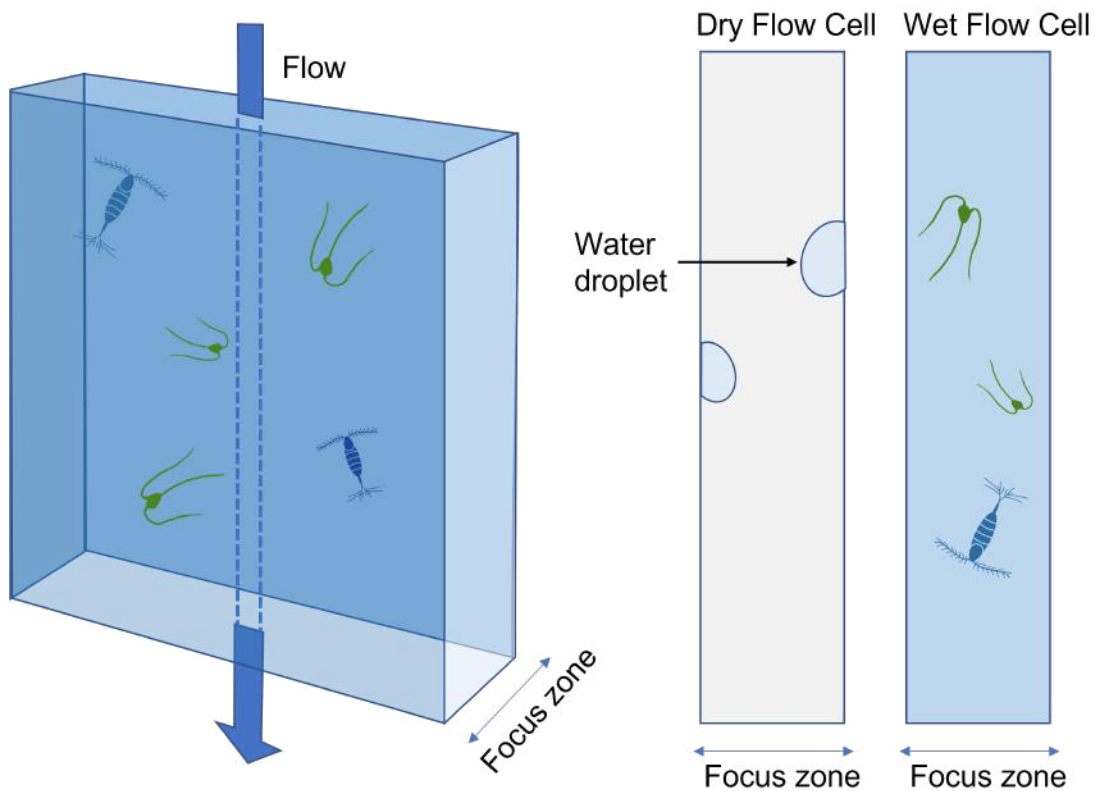
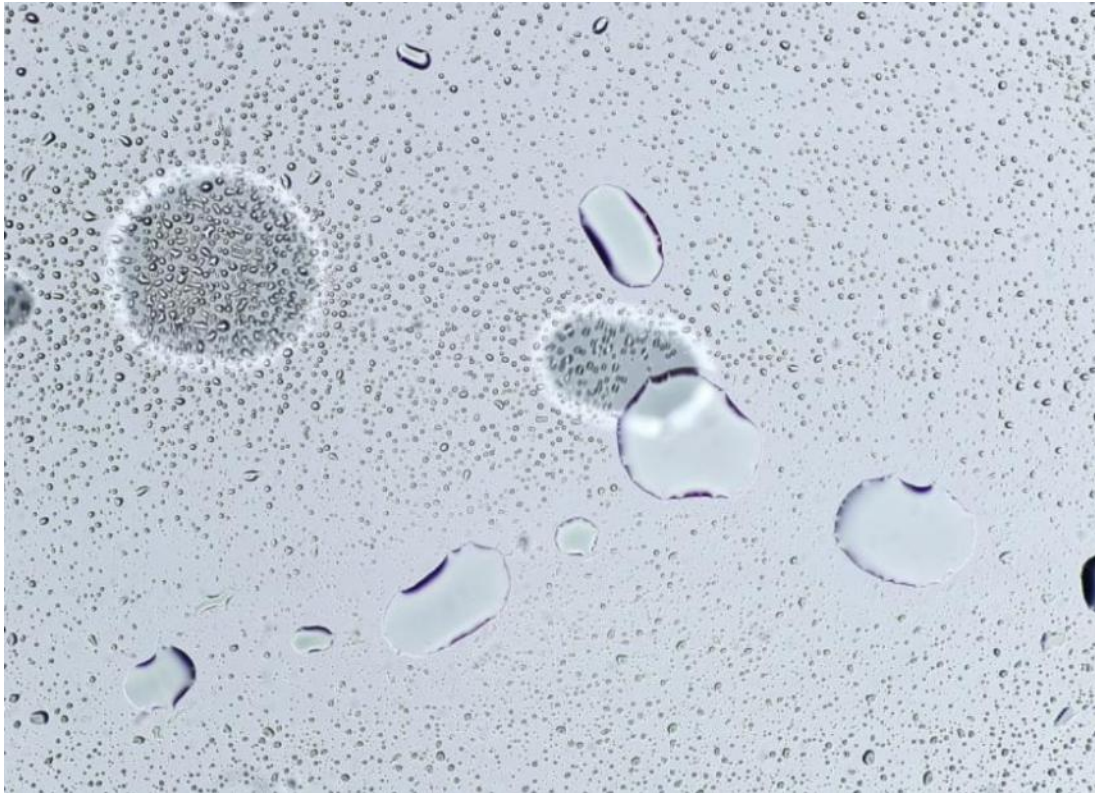

Figure 5: Focus zone of the Flow Cell
Figure 6: Water droplets
2. Check focus on the two sides of the Flow Cell, and try to have a focus between the two sides (Fig.5). In the Fig.6, you can see that on a dry Flow Cell that has been exposed to water, there are still water droplets on both sides. Use them as an indicator to do the focus.
On Fig.6, there is a good focus on the front face, and you can see two other water droplets badly focused on the back side of the Flow Cell.